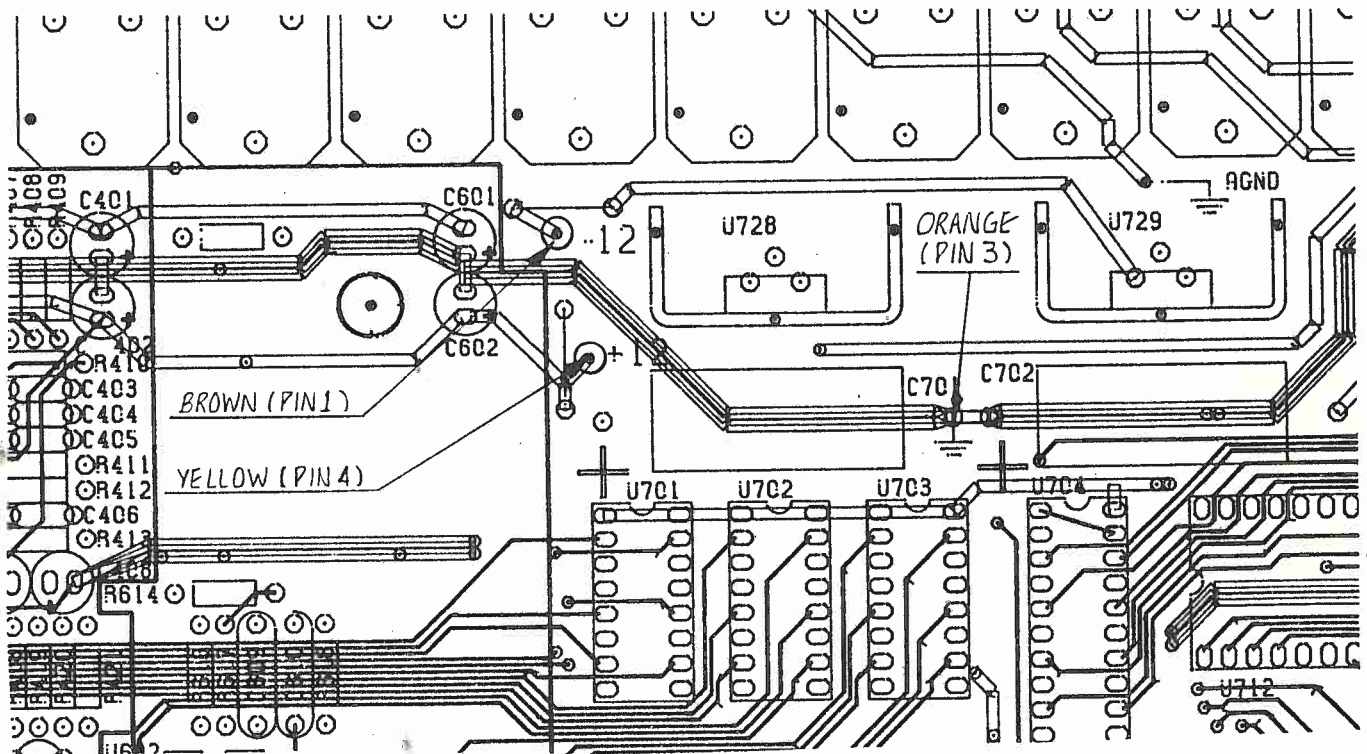

figure7
12. Cable #4 is the power supply for the Stretch Processor board. It is the Molex cable with 3 colored wires coming out of it. (Connector 'C' on the upper right hand side of the Stretch Processor board). The ends of the wires must be soldered to the DX Processor board on the locations shown in **figure 7**.
- See **figure 7**.
- The Yellow wire (pin 4) is to be soldered to the +12 test pad near C602 also shown in **figure 7**.